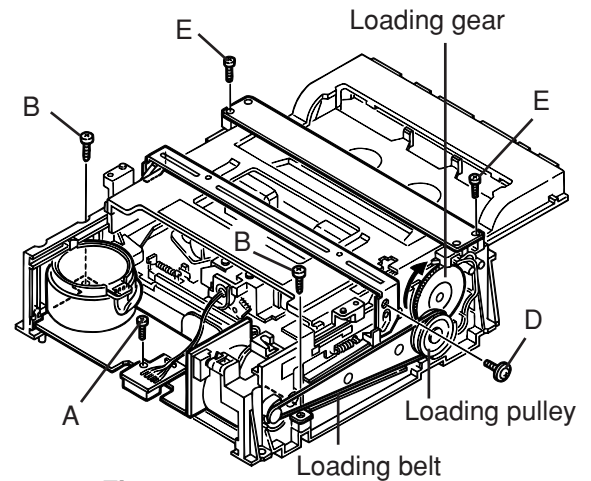

Fig. 1
■ Detaching the cassette loading mechanism (Fig. 1 to 3)